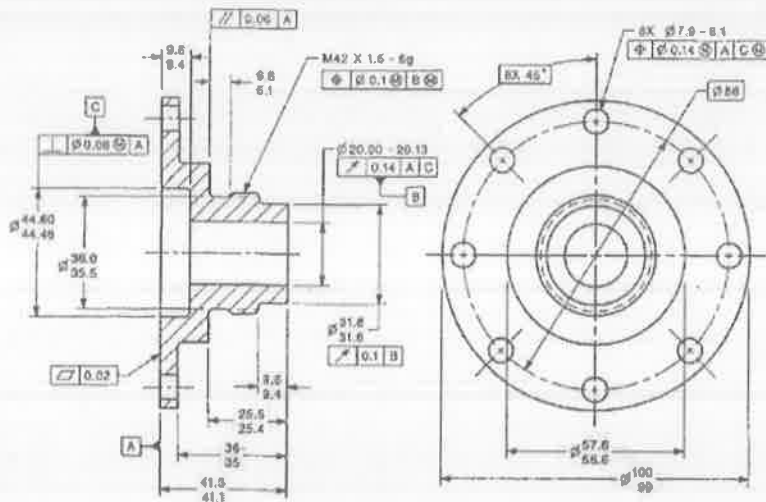

Fig. 16 (a)
16. (a) Explain in detail about the selection of processes to finish the component shown in Fig.16 (a).